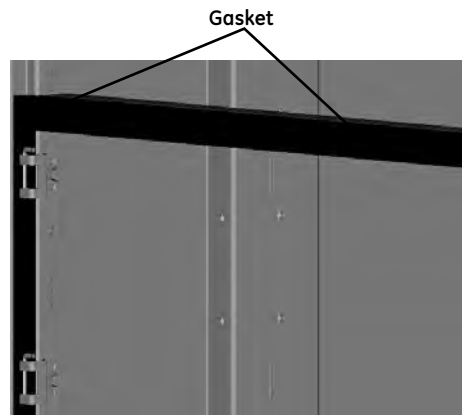

Figure 23. Type 12 Gasket material installed in a MCC section.
Any unit ordered separately is shipped complete with the door and associated hardware. If the space available in the vertical section is greater than the new unit height, order a blank filler door with hinge hardware and a snap shelf. See the renewal parts bulletin for ordering blank doors and gasket materials. The gasket material lines the inner perimeter of the section. Figure 23 shows the gasket material mounted to the outside of the door.
1. Attach the door hinges to the left side of the section, line up the door with the hinges, then insert the hinge pins to secure the door. (For Type 12 enclosures, mount the gasket on hinge side. See Figure 23.)